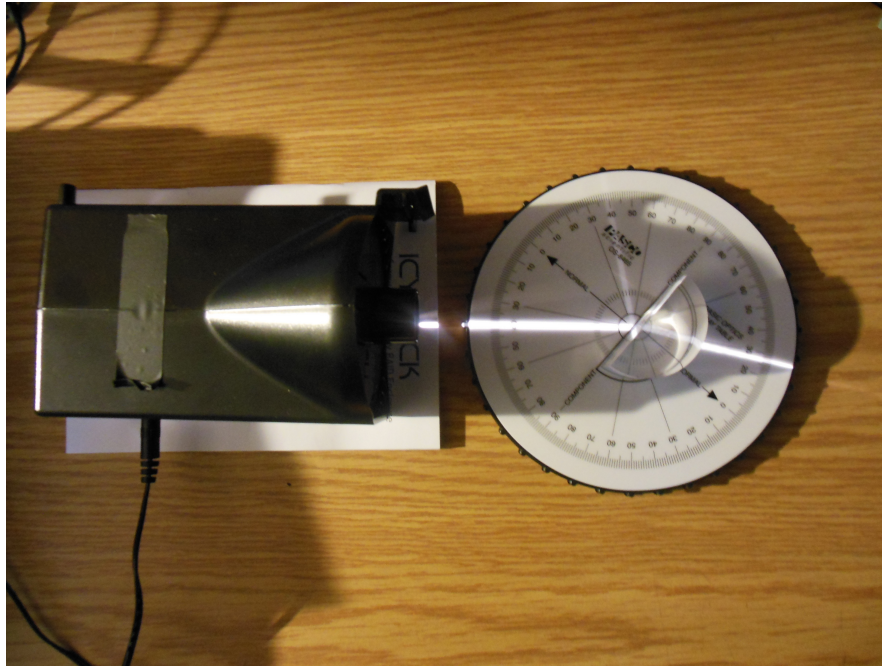

Figure 2.2.: Refraction experiment equipment configuration
2. Set up the equipment as shown in Figure 2.2 but leave the cylindrical lens off. Adjust the components so a single ray of light follows over the center of the bold “Normal” line.